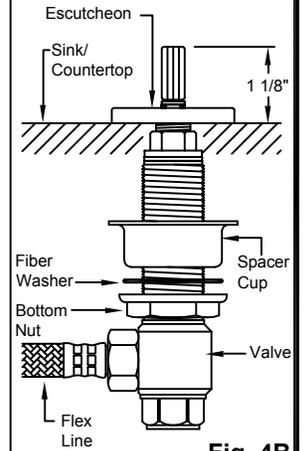

Fig. 4B
- Insert valve through hole from below and install the escutcheon and adjust to proper height, (See Fig. 4B). Then place handle onto valve broach to verify correct clearance between handle and escutcheon, (repeat for other valve).
The trims to these products do not require a top nut to be installed on the valve, the escutcheon takes the place of the top nut, (See Fig. 4B)